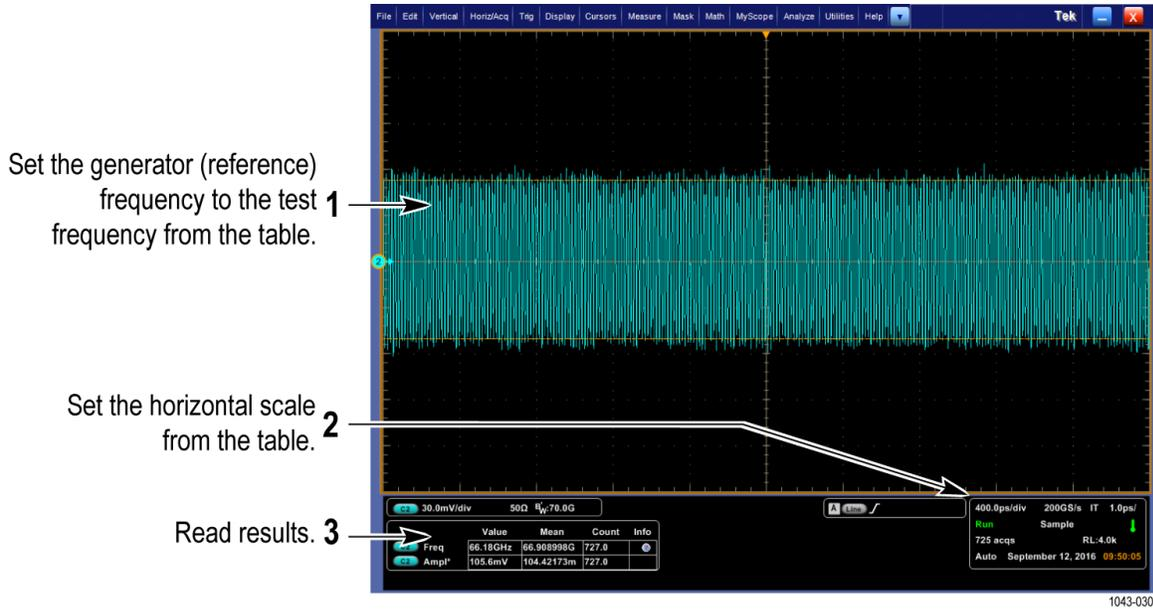

Figure 19: Measurement of analog bandwidth
- Read the results at the Ch 2 Amplitude mean readout, which will automatically measure the amplitude of the test signal. (See Figure 19 on page 150.)